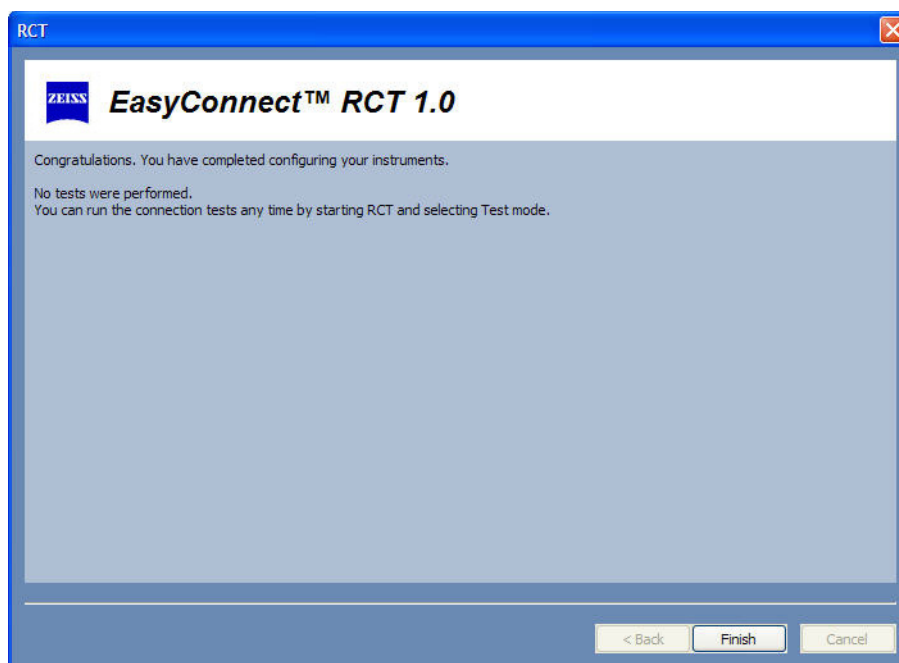

Figure G.13 Completion Screen (No connection tests)
- 7 If the PERFORM CONNECTION TESTS button was *not* selected (default), then after selecting NEXT on the Commit screen, a final Completion screen will be displayed (Figure G.13). If you selected PERFORM CONNECTION TESTS, then each selected instrument will be tested before a final Completion screen will be displayed (See Steps 3–5 in the Test mode section, page 38–42). *Each connection test could take several minutes.* Select FINISH to exit the RCT.